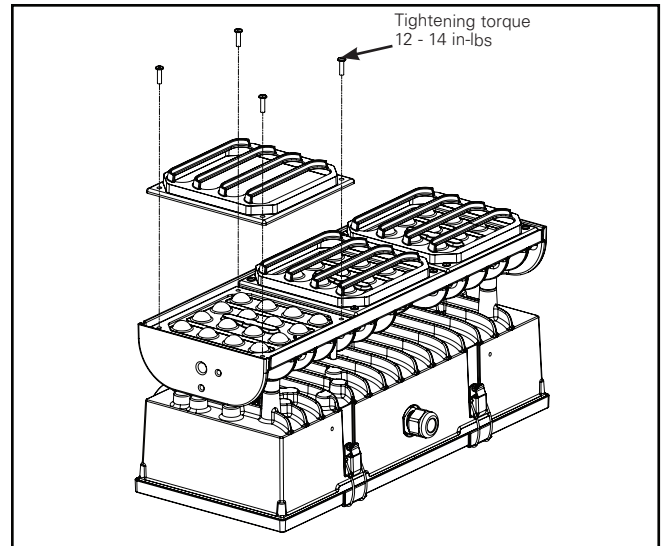
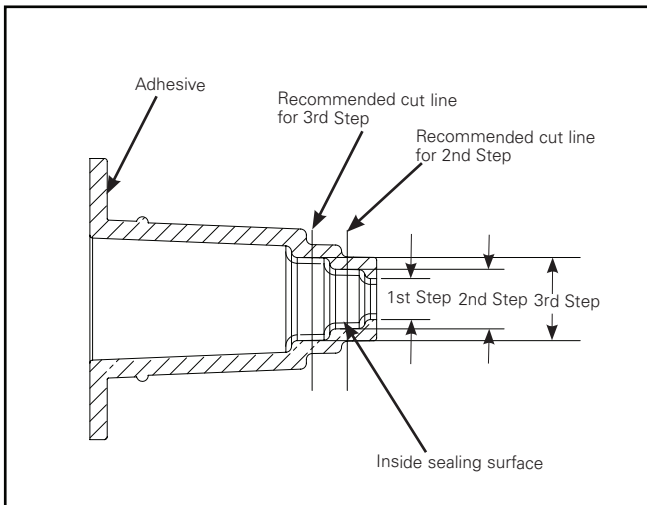

Figure 16.
Figure 18.
Baffle (Figure 16)
1. Loosen and remove the existing (4) 8-32 screws on the face of the fixture (Fig 16) and retain for future reference.
3. Align baffle on top of lens clips matching the (4) existing holes.
4. Use the existing (4) 8-32 screws to secure visor.
1. Check the grommet opening to make sure cord will make a tight fit. Cut across the stepped feature of the grommet if larger opening is required. Recommended cord outer diameter range (Fig 18): 1st step: .25-.375 inch; 2nd step: .375 – 0.50 inch; 3rd step: .50 -0.60 inch (Fig 16).